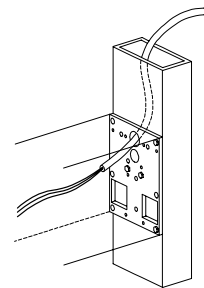

Figure 2-3
- 2.4. Feed the 115 volt power conduit into the header (Figure 2-3). Leave 12" minimum of wire inside the header for final hookup.